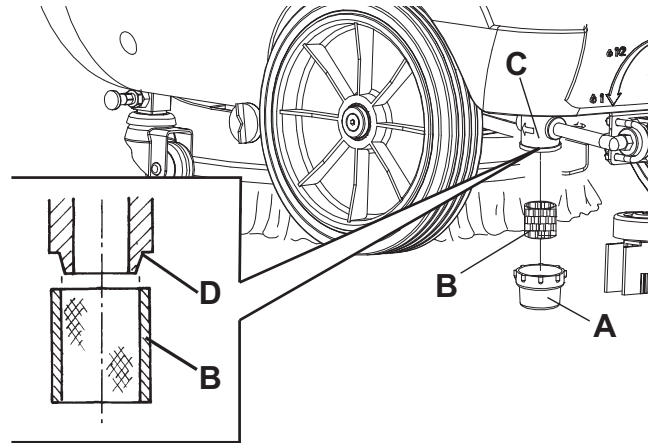

Figure 6
1. Empty the solution tank (27) as shown in the relevant paragraph.
3. Make sure that the power supply cable (21) is disconnected from the electrical mains.
4. Remove the transparent cover (A, Fig. 6), then remove the filter strainer (B). Clean and install them on the support (C).